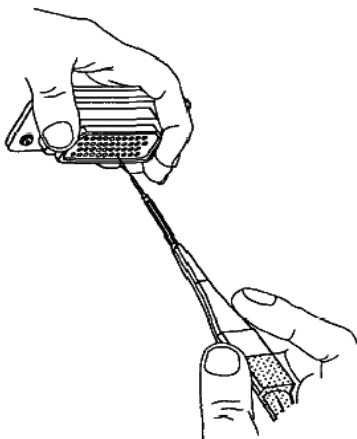

Figure 22. Removing Contact from Connector
e. Press wire firmly against serrated edge of removal tool and pull wire straight out from contact cavity (Figure 22)